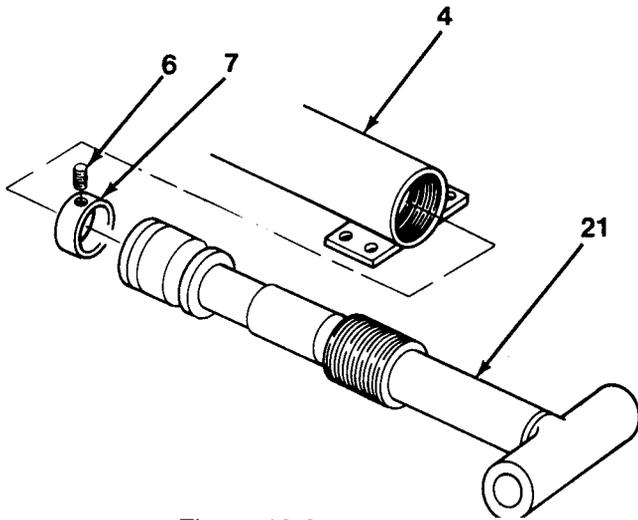
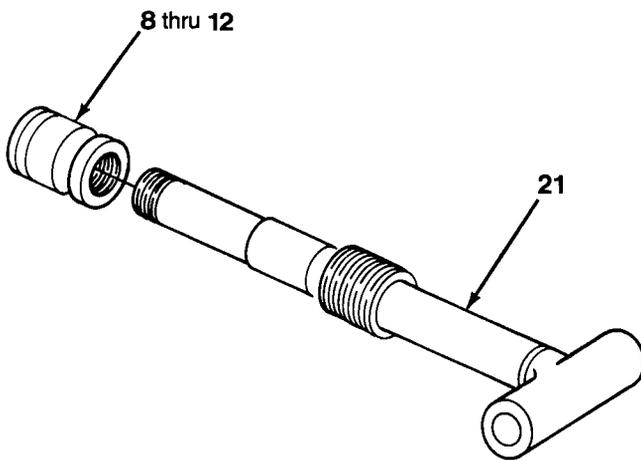

Figure 13-3
Figure 13-4
8. Pull cylinder rod (21) completely out of cylinder case (4, Figure 13-3).
9. Remove two Nylok setscrews (6) from butress ring nut (7).
10. Using chain or strap wrench, remove butress ring nut (7).
11. Remove items 8 thru 12 as an assembly from cylinder rod (21, Figure 13-4).